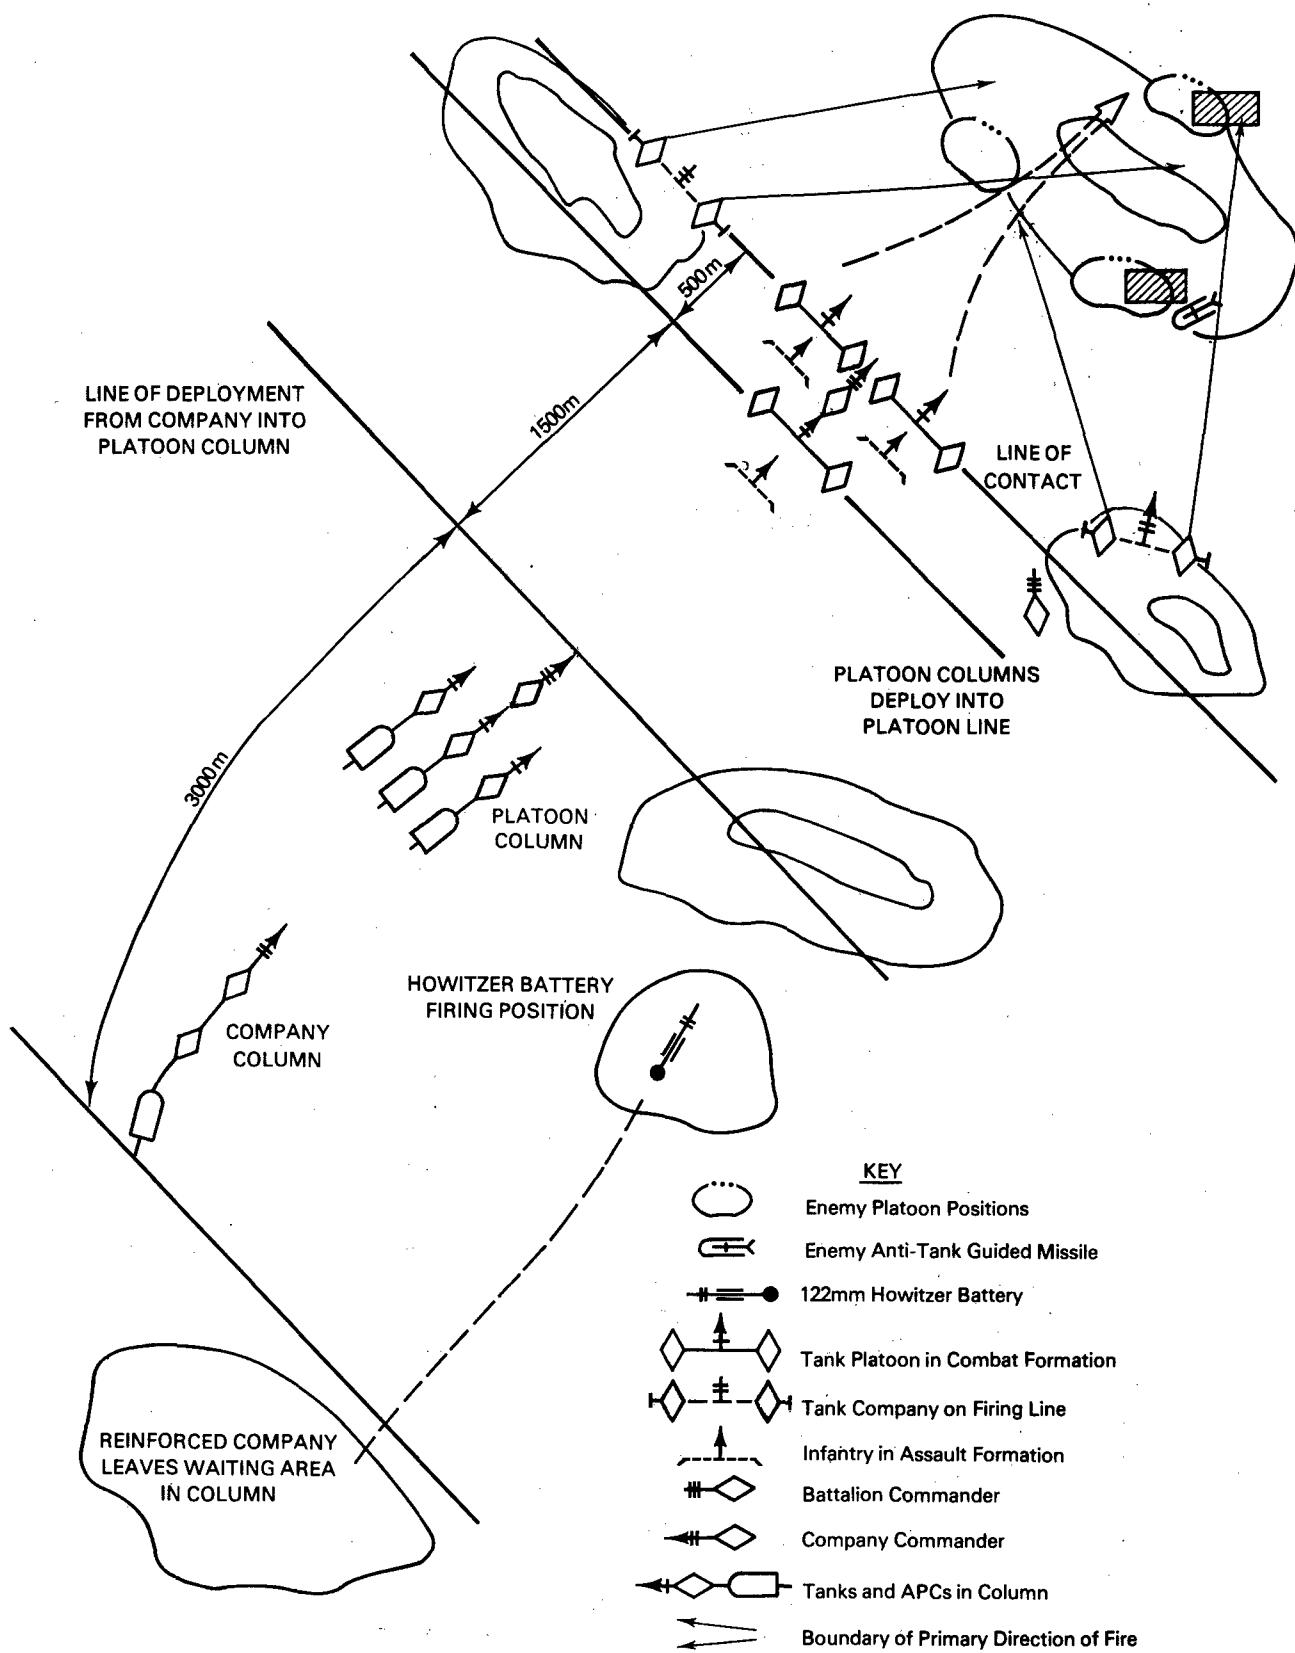

Figure 12. Advance from a Holding Area.
(1) From the march against an ill prepared enemy.
(2) By deliberate assault against prepared defenses from a holding area.
11. ACTION IN THE HOLDING AREA. A tank company commander prepares his company for combat while regimental orders are being issued to the battalion commander. Tanks are refueled, serviced, and resupplied with ammunition. After receipt of the battalion commander's orders, reconnaissance is conducted and orders given to platoon commanders. Time permitting, rehearsals are carried out. Movement from the holding area is shown in Figure 12.
b. The company deploys into precombat formation approximately two kilometers from the line of contact. Platoons deploy into combat formation approximately 500 meters before reaching the line of contact (see Figure 12).